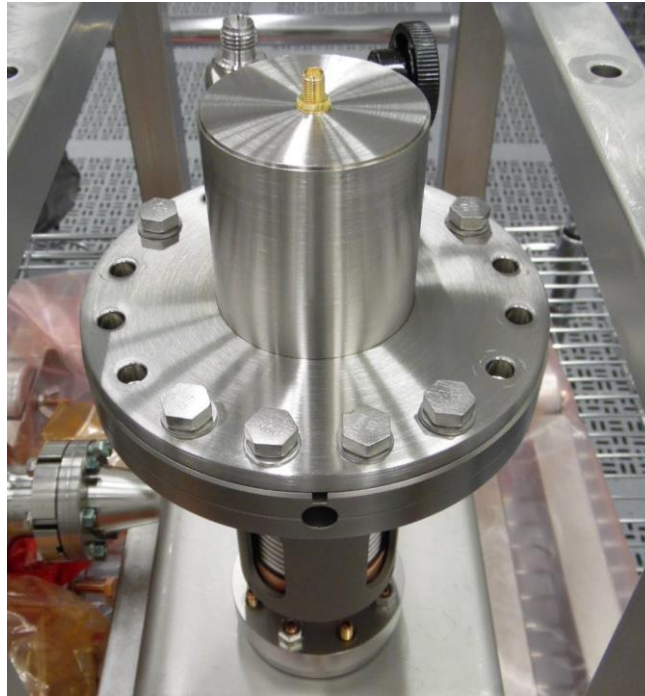

Figure 6.1: Ceramic Protection Cap
- 6.3. Remove the ceramic protection caps on each FPCC (Figure 6.1).